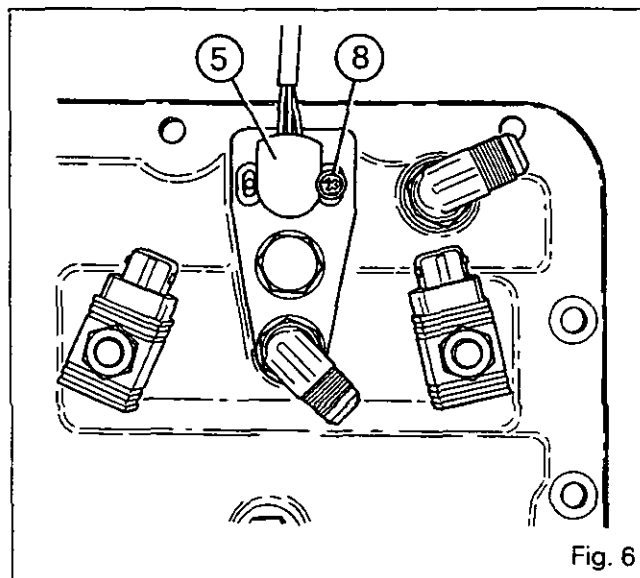

Fig. 6
39. Fit the position sensor (5) and its seal, and the attaching bolts (8) positioned in the centre of the elongated holes (Fig. 6).